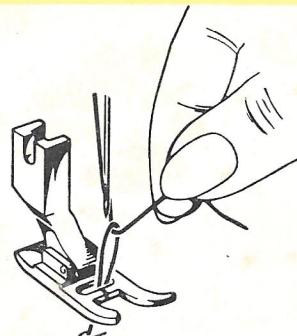

Fig. 16
- Draw the upper thread; the lower thread will be pulled up through the hole of needle plate (Fig. 16).